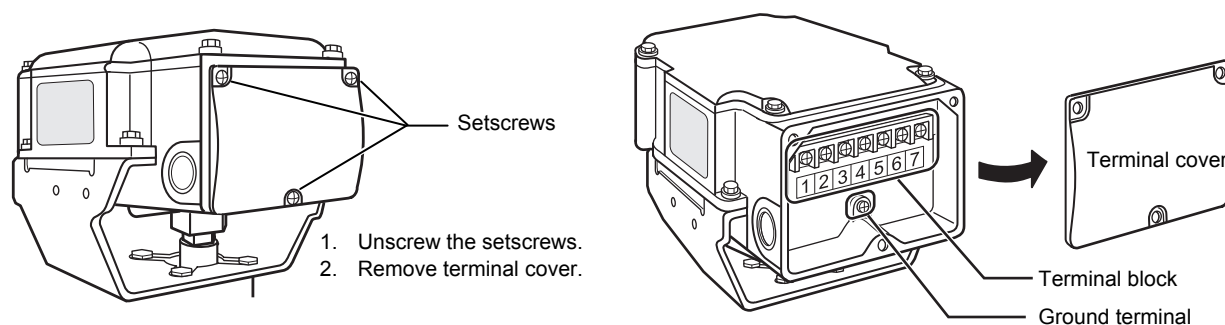

Figure 9. Terminal cover removal
- 2) Unscrew the 3 setscrews (M4  $\times$  10) of the terminal cover and remove the terminal cover, as shown in Fig. 9.
- 1) Unscrew the setscrews and remove the terminal cover. See Fig. 9 for removing the terminal cover.